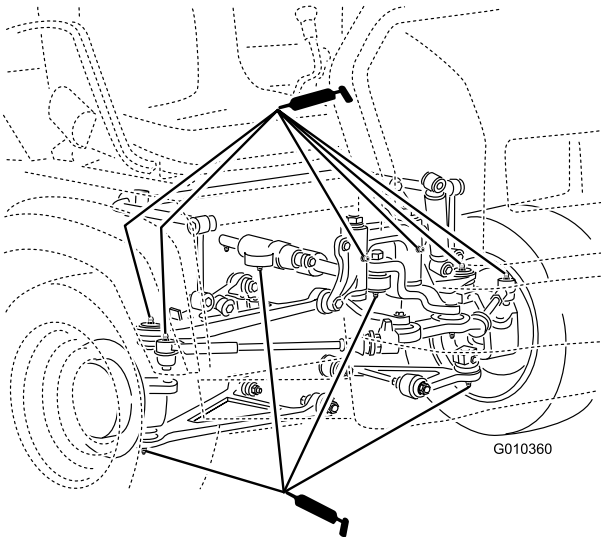

Figure 29
- Ball joints (4), tie rods (2), pivot mounts (2) and steering cylinder (2) (Figure 29)